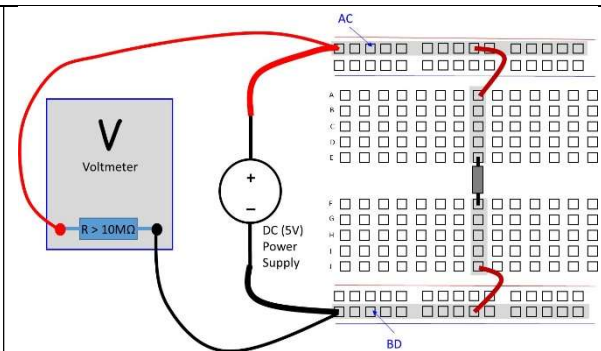
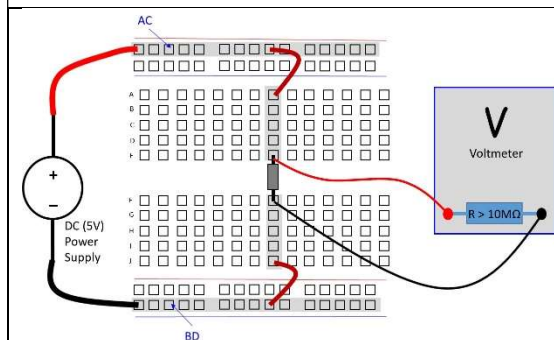

Figure-3.24: Measure the voltage across the power supply voltage.
Figure-3.25: Measure the voltage across the resistor
5. Power ON the power supply. Measure the voltage difference **across the power supply** and **across the resistor** as shown in Figure-3.24 and Figure-3.25. (Refer to experiment-3.1 procedure-1 for voltmeter setting.)